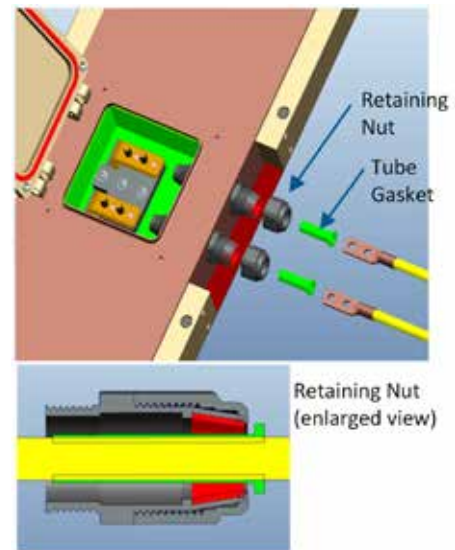

Figure 16. Routing DC Power Cords
Step 2. Referring to Figure 16, remove retaining nuts and route power cord through provided tubing gaskets noting the following: